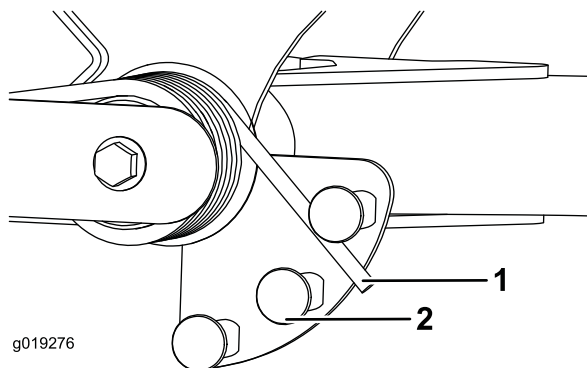

Figure 43
2. Insert a tube or similar object onto the long spring end and pivot it around the spring actuator to the desired position (Figure 43).